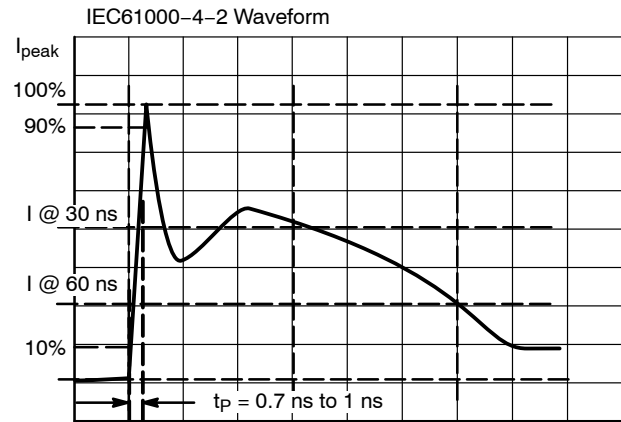

Figure 3. IEC61000-4-2 Spec
6. For test procedure see Figures 3 and 4 and Application Note AND8307/D.